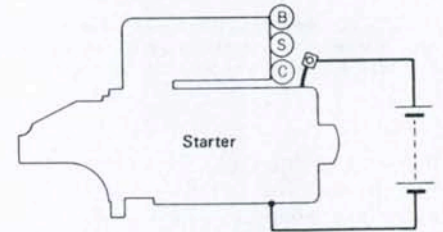

Fig. 83—Disconnect lead at C terminal of magnetic switch, then connect battery positive terminal directly to starter to check starter motor operation.
62. To check starter and switch operation, disconnect lead from C terminal (Fig. 83) of magnetic switch and connect battery positive terminal directly to starter C lead. Connect battery negative terminal to starter frame. If motor runs smoothly, magnetic switch is defective; if not, motor is defective. Magnetic switch pull-in coil and hold-in coil should operate properly with 1/2 of rated voltage (six volts) applied to switch terminals. Renew magnetic switch as a unit if defective.